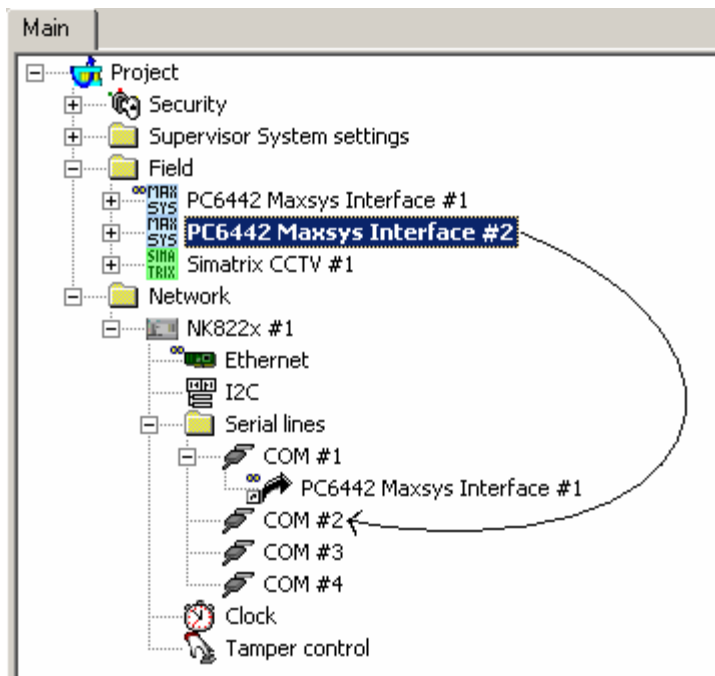

Fig. 16 Link MAXSYS to the NK8000 network
3. Drag and drop the MAXSYS node to the network COM port (see Fig. 16).